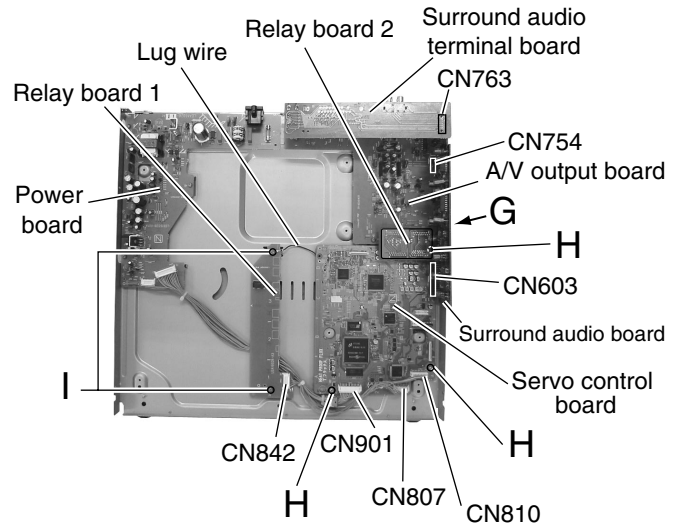

Fig.13
■ Removing each board (See Fig.13,14)